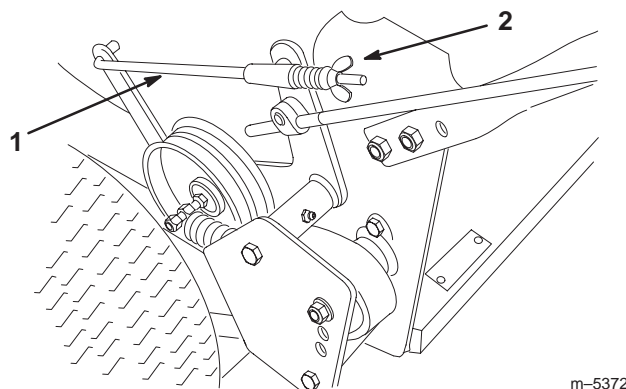

Figure 37
3. To adjust the brakes, rotate the wing nuts on the brake rods (Fig. 37). Rotate the wing nuts clockwise to tighten the brakes; rotate them counterclockwise to loosen them.